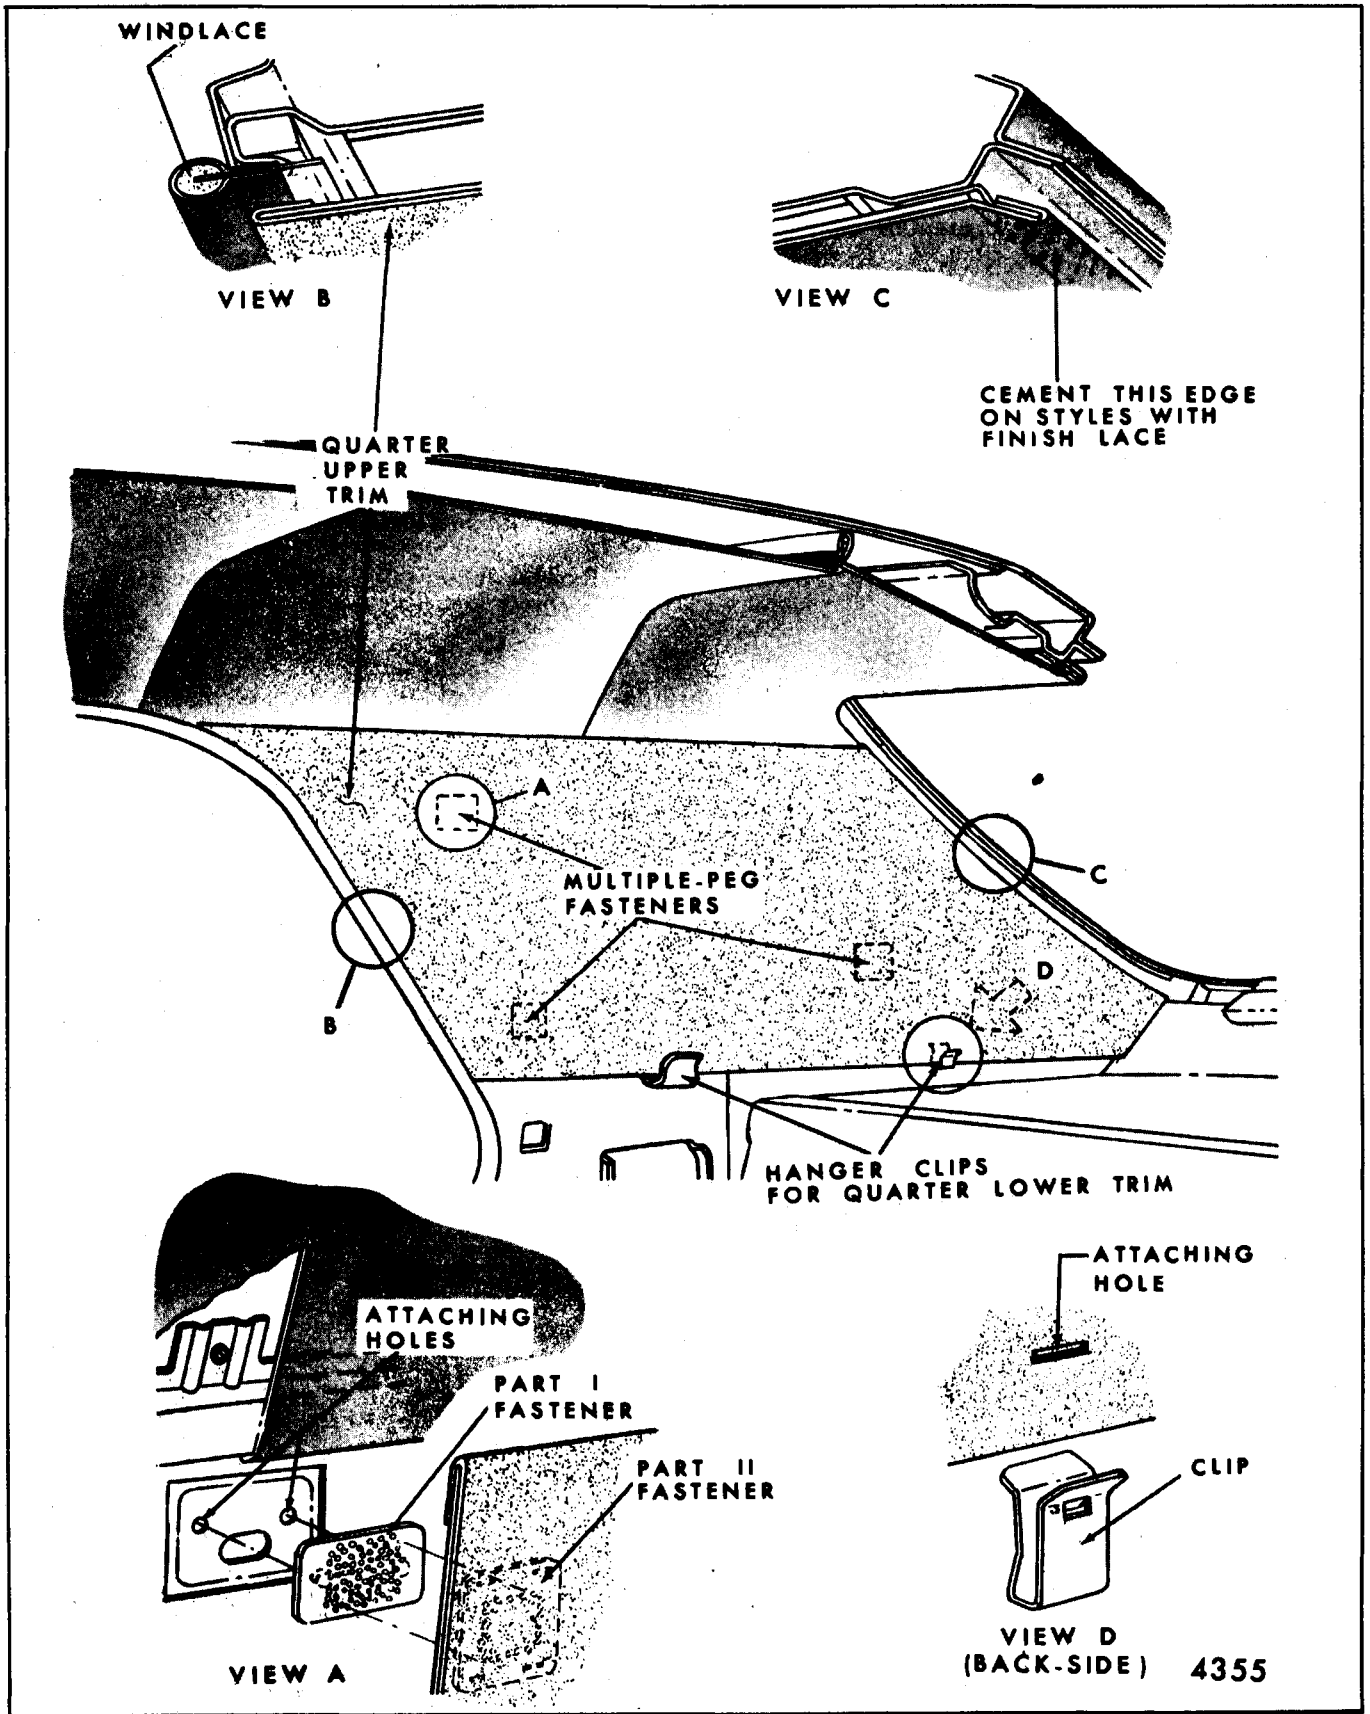

Fig. 13-25-Quarter Upper Trim Attachment - Typical Installation
2. Remove attaching screw(s) or, if cemented, carefully break cement bond between upper trim and retainer along back window (Figs. 13-25 and 13-26).
fasteners (View "A" Fig. 13-25). Then remove trim.
NOTE: Part 1 of fastener, as shown in Figure 13-25, secures to quarter inner panel. Part 2 of fastener (Figure 13-25) is stapled to foundation of quarter upper trim. For best results during removal, confine prying operations between the fasteners.
- To install trim assembly, feed courtesy lamp wire through trim panel. Also, position trim assembly at lower retaining clip ("D" Fig. 13-25) and along front and rear edges. Then, secure fasteners with a moderate hand pressure. Reverse balance of removal operations. When necessary, use non-staining vinyl trim adhesive to cement trim at back window retainer.